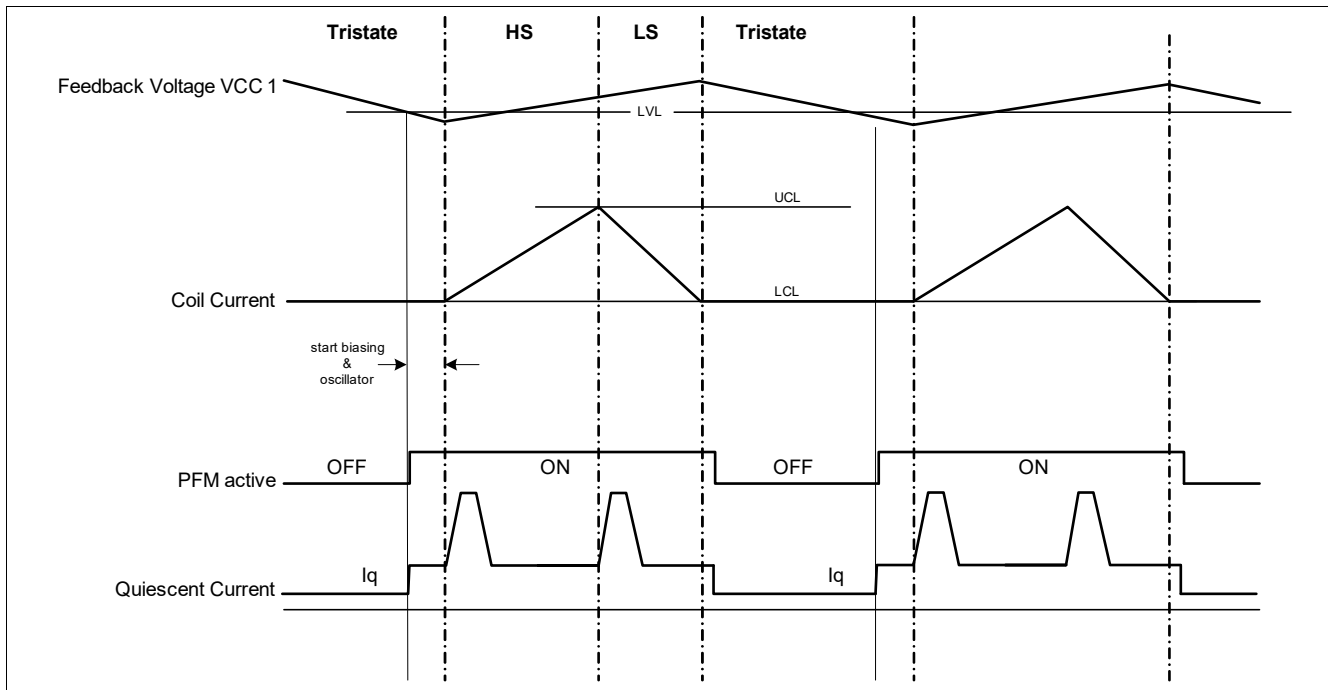

Figure 8 Typical PFM timing diagram
- PFM mode (Pulse Frequency Modulation): This mode is activated automatically when the SBC Stop mode is entered. The PFM mode is an asynchronous mode. PFM mode does not have a controller switching frequency. The switching frequency depends on conditions of the buck regulator such as the following: input supply voltage, output voltage, output current and external components. A typical timing diagram is shown in **Figure 8**. The buck converter in PFM mode has a tolerance of $\pm 4\%$. The transition from PFM mode to PWM mode is described in **Chapter 6.4.2**